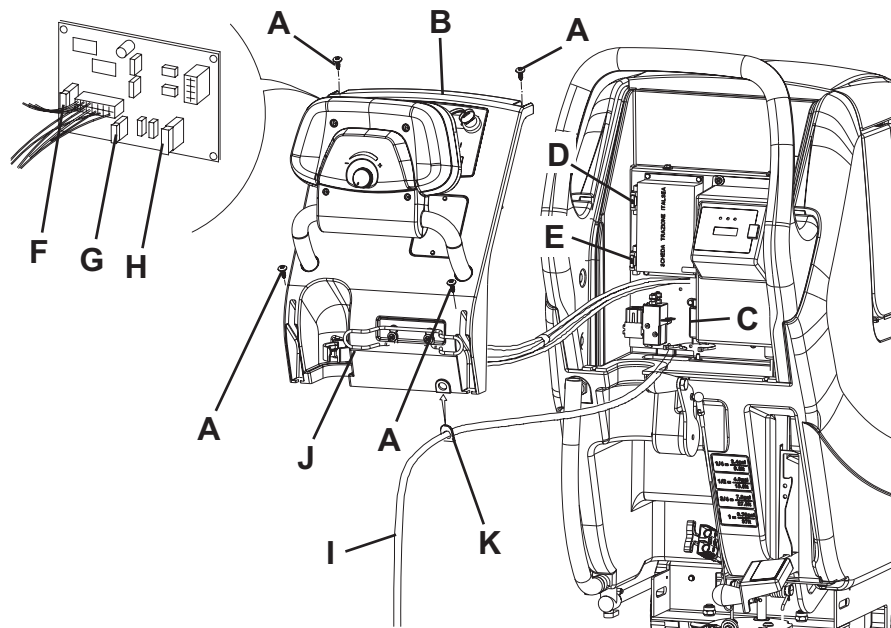

Figure 7
1. Disconnect the battery connector (12).
2. Move aside the recovery water drain hose (16).
3. If equipped, remove the battery charger cable (I, Fig. 7) from the holder (J).
4. Remove the screws (A) and carefully move aside the panel (B) by disengaging the grommet (K) from its housing on the panel (B).